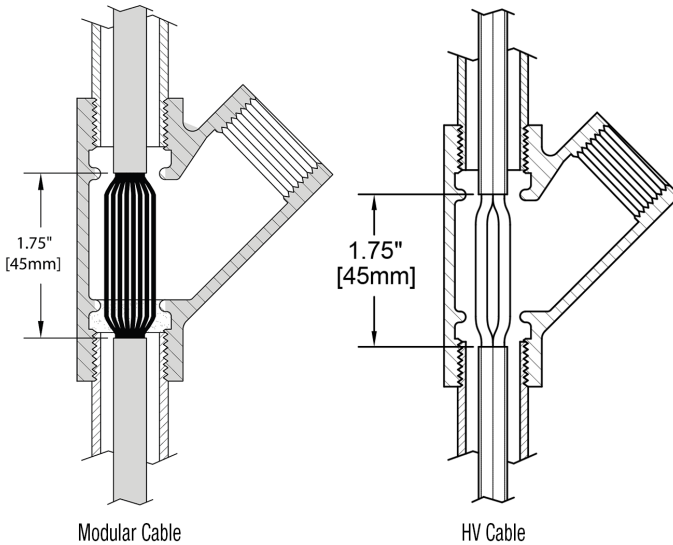

Figure 1. Conduit Seal
- A. Ground Power Supply by connecting a ground lead between metal conduit to Power Supply and a good electrical machine ground. Note that conduit seals must be properly installed to prevent the propagation of vapors and flames through conduit runs (see Figure 1). Outer jacket of modular cables must be removed (and individual wires separated) before filling conduit seals with cement.